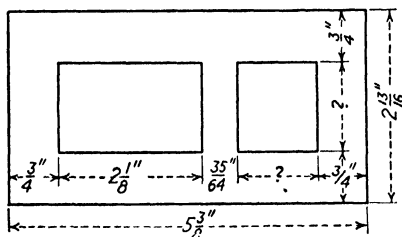

Fig. 295.
6. Find the missing dimension in Fig. 295.